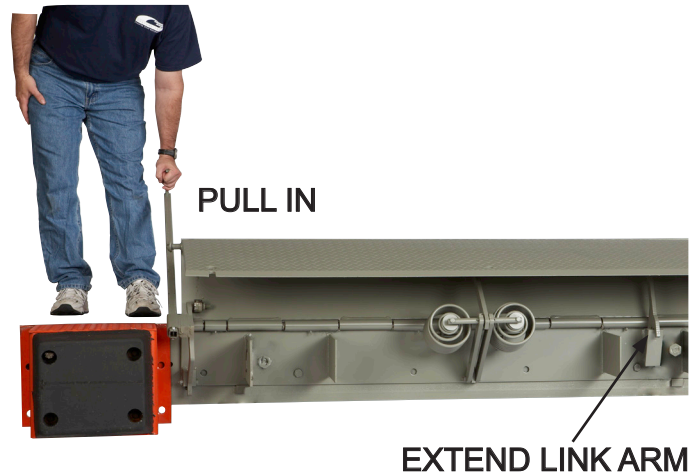

Figure 16
- b. Pull handle toward you, rotating center plate back past vertical. Lip plate extend link arm will engage at this time. See Figure 16.